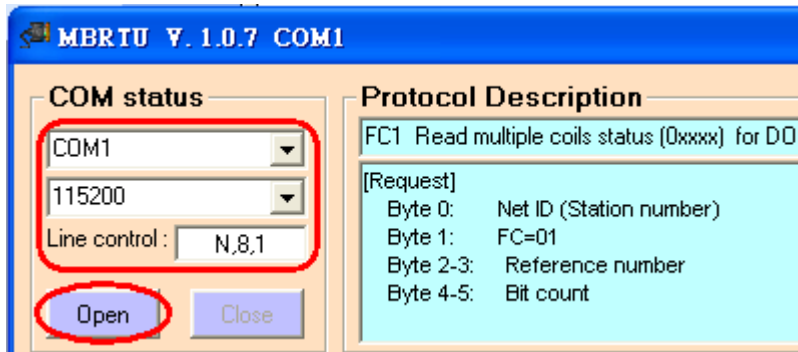

Figure 22: MB/RTU Tool
Step 4: Run the MB/RTU tool (like Figure 22) on PC.
- (1) Set the PC COM port number
- (2) Set the baud rate to 115200
- (3) Set the Line control to “N,8,1”
- (4) Click “Open” button